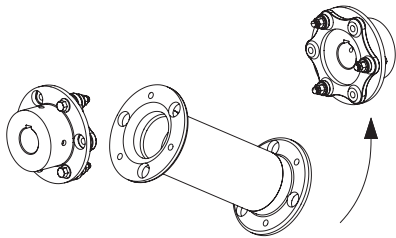

Figure 3 - Position spacer up between hubs.
- 3.1 Position the spacer between the hubs as shown in Figure 3.